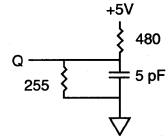

Fig. 2 OUTPUT LOAD EQUIVALENT
- ^tHZCE, ^tHZWE and ^tHZOE are specified with CL = 5pF as in Fig. 2. Transition is measured ± 500mV from steady state voltage.